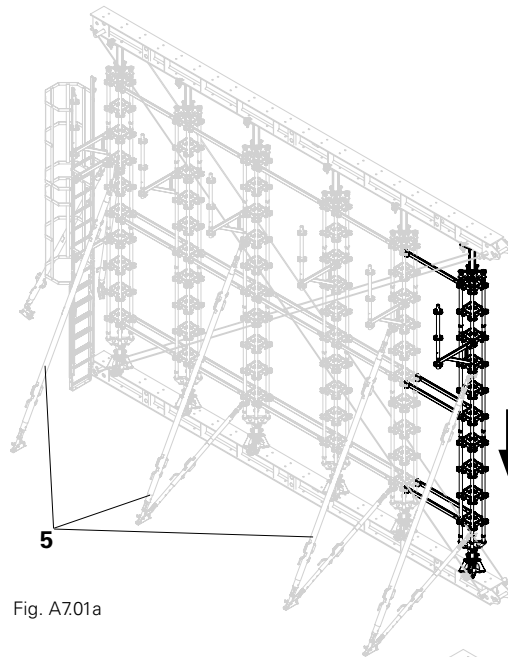

Fig. A7.01a
1. Loosen the Push-Pull Props (5), but do not remove them. Lower Heavy-Duty Props HD according to the lowering plan one after the other by Lowering Jack HD with Hydraulic Unit HD as follows. See Section A5 "Hydraulic Lowering Unit HD".
- Lower the last Heavy-Duty Prop HD. (Fig. A7.01a)